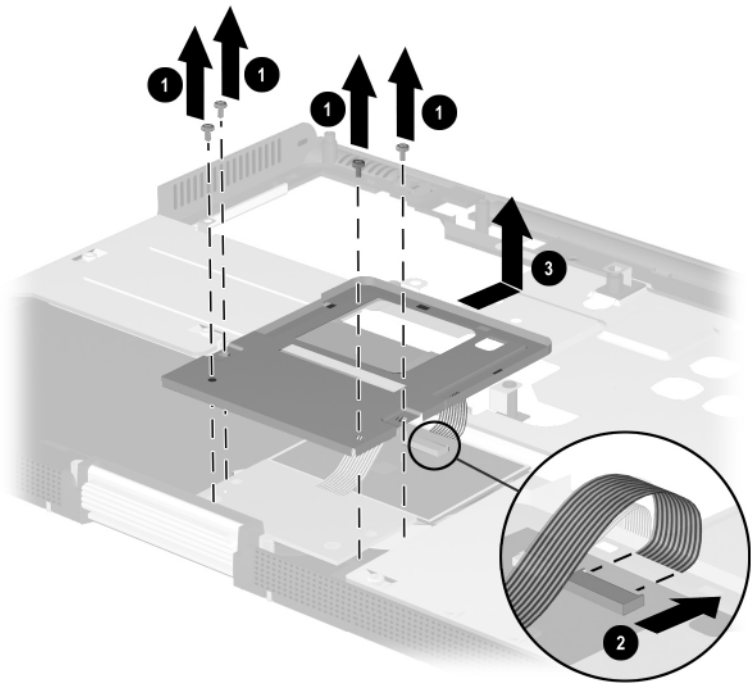

Figure 5-27. Removing the TouchPad
2. Remove the four PM2.0 × 4.0 screws **1** that secure the TouchPad bracket to the top cover (Figure 5-27).